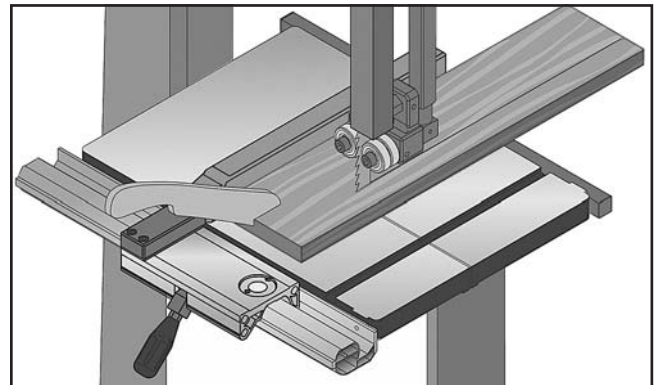

Figure 52. Example of a ripping operation.
3. After all safety precautions have been met, turn the bandsaw **ON** and wait for it to come to full speed. Slowly feed the workpiece into the blade until the blade is completely through the workpiece. **Figure 52** shows an example of a ripping operation.